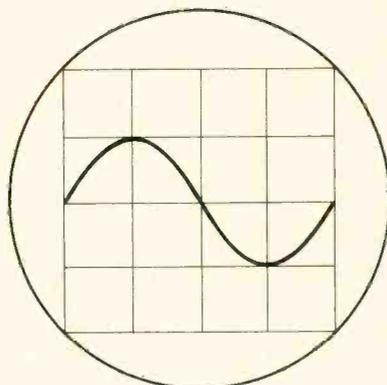

FIG. 2
10. The scope producing Fig. 2 is set on a